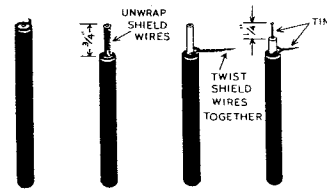

Figure 13
- () Install a second 10 K Ω 10 watt resistor between EE1 (NS) and J2-1 (S-2). Use sleeving on the lead to J2-1. Position resistor flat against chassis.
- () Install a 15 K Ω 2 watt resistor (brown-green-orange) between J3 (NS) and LL1 (NS).
- () Install a 100 K Ω 2 watt resistor (brown-black-yellow) between LL1 (NS) and LL2 (NS).
- () Connect a 10 K Ω resistor (black-brown-orange) from O1 (NS) to O3 (NS).
- () Connect another 10 K Ω resistor from O2 (NS) to O3 (NS).
- () Cut a length of shielded cable 13" long. At one end cut away 3/4" of the outside insulation. Take care not to cut into the shield which is wrapped around the insulation of the inner conductor. Refer to Figure 13. Unwind the shield and twist into a pigtail. Now strip 1/4" of insulation from the inner conductor. Tin both leads.